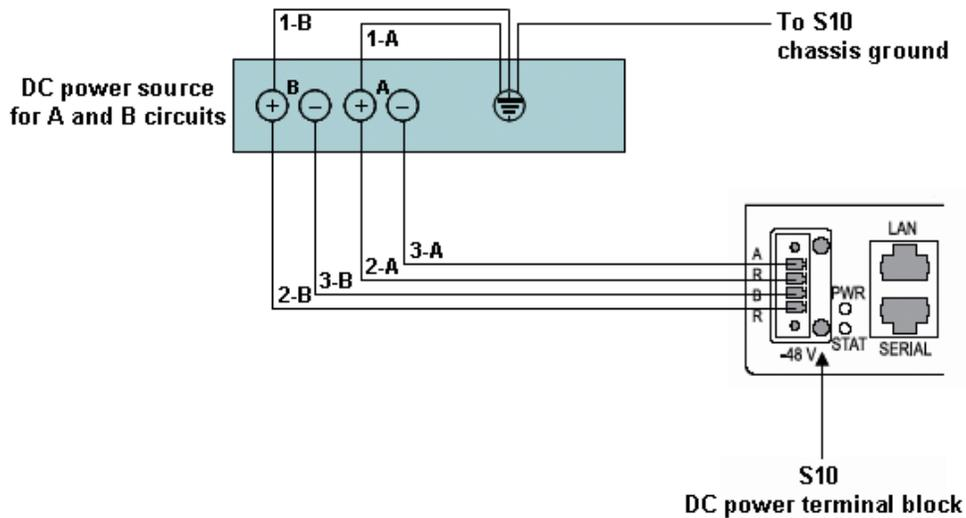

Figure 13. Wiring the OS-10 System for DC Power
To connect DC power to the OS-10 system, see Figure 13 and follow these steps:
- Figure 13 shows the terminal block for the DC power supply on the OS-10 system. Wire the DC power supply as shown.
4. Connect the positive lead of this circuit to ground. See wiring 1-A in Figure 13.
**Note** As an option, you may choose another common grounding point other than the one shown in Figure 13. The choice depends on the grounding practice for your particular location. Figure 13 shows the grounding point colocated with the DC circuit for “A” power.
6. Connect the negative lead of the circuit to the “A” power input lead on the OS-10 system terminal block. See wiring 3-A on figure 13 on page 36.
7. Connect the positive lead of this circuit to ground. See wiring 1-B on figure 13 on page 36.
**Note** As an option, you may choose another common grounding point other than the oneshown in Figure 13. The choice depends on the grounding practice for your particular location. Figure 13 shows the grounding point colocated with the DC circuit for “B” power.
8. Connect the positive lead of the circuit to the return direction for “B” power on the OS-10 Series system terminal block. See wiring 2-B on Figure 13.
9. Connect the negative lead of the circuit to the “B” power input lead on the OS-10 system terminal block. See wiring 3-B on figure 13 on page 36.